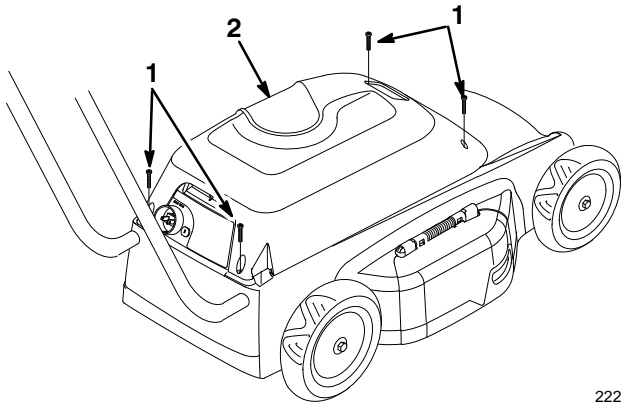

Figure 20
- Remove top shroud (Fig. 20) and clean out any debris underneath it with compressed air, a vacuum cleaner or a brush.